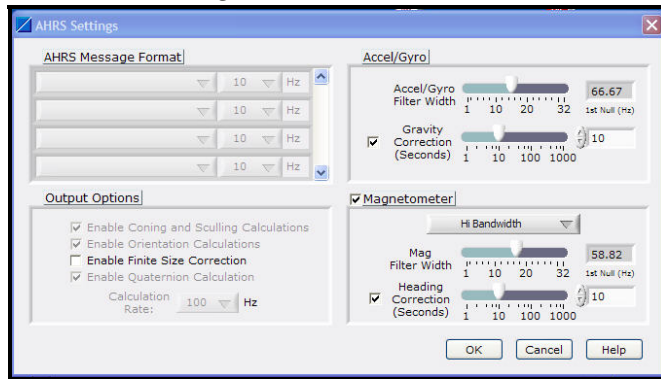

Figure 2. AHRS Settings window
- Click AHRS and the AHRS Settings window will appear as shown in Figure 2.